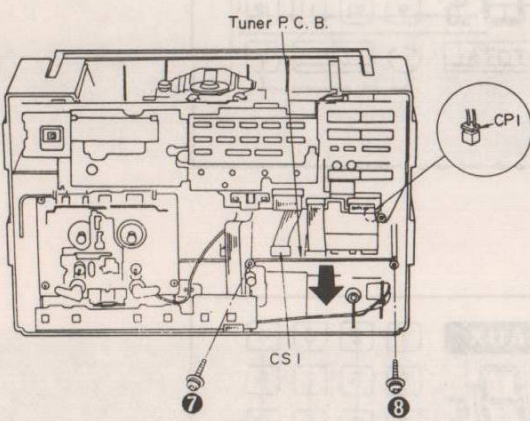

Fig. 4
8. Remove the 2 screws (7, 8). (See Fig. 4)
9. Remove the 2 flat cable (CS1 CP1) and then remove the tuner P.C.B. (See Fig. 4)